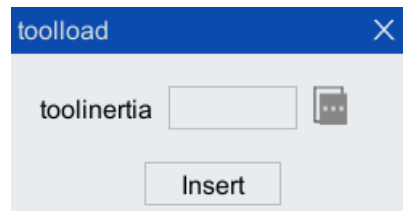

Figure 5-55 The "Toolload" instruction configuration interface
Step1. Click "Insert Cmd> auxiliary instruction> toolload" option in the toolbar of the program editor to pop up "toolload" instruction interface, as shown in Figure 5-55.